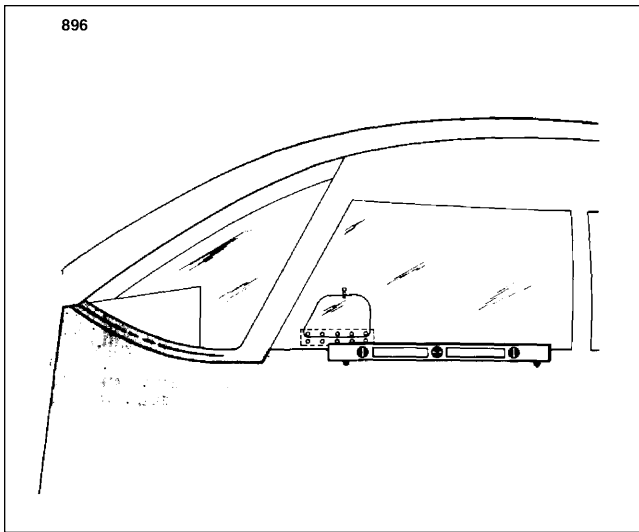

Figure 2-34. Leveling Longitudinally
- b. To longitudinally level the airplane, partially withdraw the two leveling screws located immediately below the left front side window (Refer to Figure 2-34.) Place a level on these screws heads and adjust the jacks until the level is centered. Should the airplane be either on scales or on the floor, first block the main gear oleos to full extension; then deflate the nose wheel until the proper position is reached.